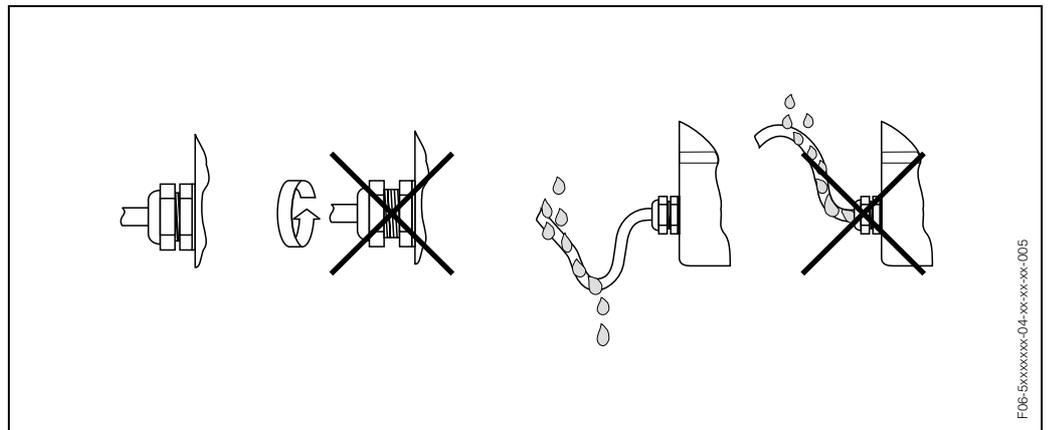

Fig. 19: Installation instructions, cable entries
- Firmly tighten the cable entries (Fig. 19).
- The cables must loop down before they enter the cable entries ("water trap", Fig. 19). This arrangement prevents moisture from penetrating the entry. Always install the measuring device in such a way that the cable entries do not point up.